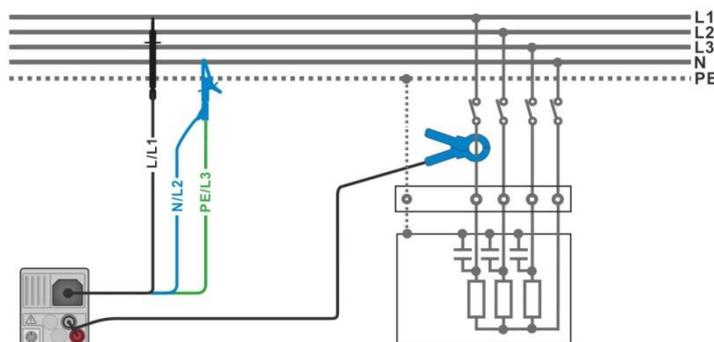

Figure 7.73: Harmonics measurement
- ▶ Connect the voltage test leads and current clamp to the item to be tested, see **Figure 7.73**.